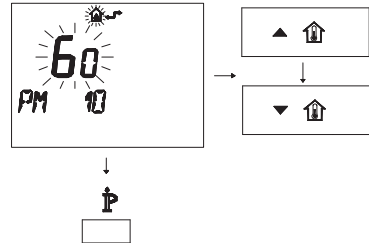

Fig. 7.43
- To modify the programmed SET, act on buttons **▲** **HOUSE** or **▼** **HOUSE** and wait for the number programmed to flash (Fig. 7.43).